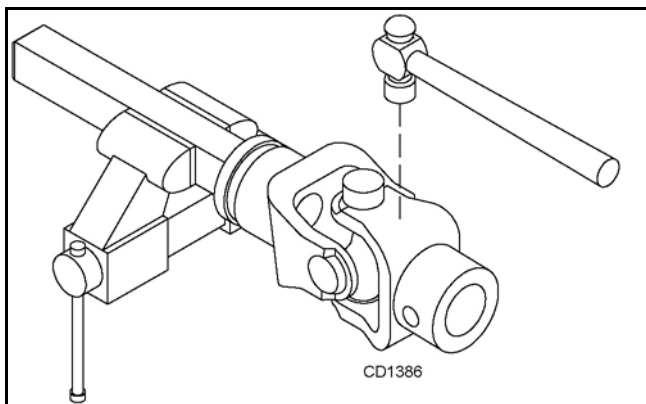

Figure 28. Remove Cups
2. With snap rings removed, support drive in vise, hold yoke in hand and tap on yoke to drive cup up out of yoke. See Figure 28.